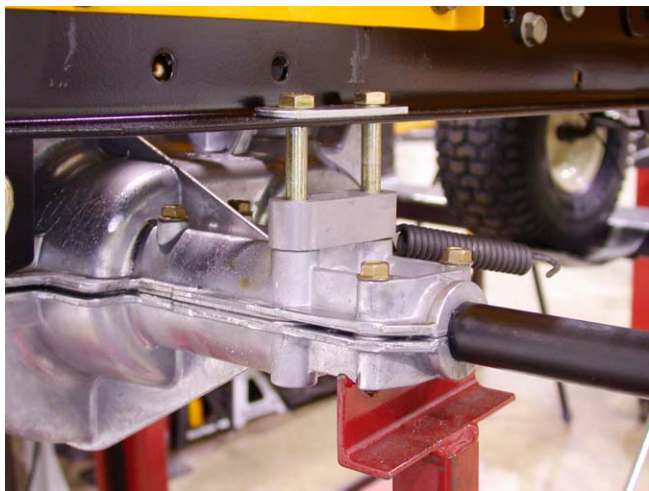

Figure 21.13
21.13. Lower the transmission from the rider. See Figure 21.13.